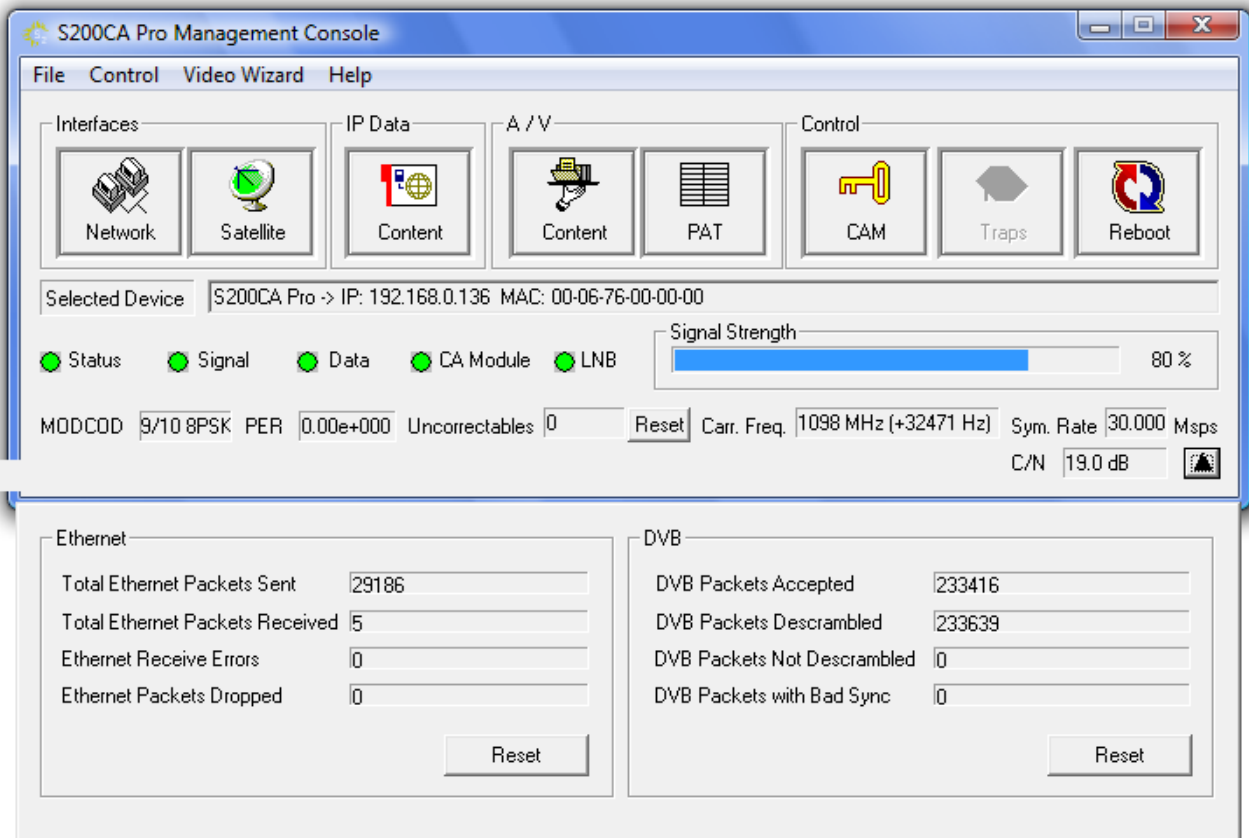

Figure 5 – S200 Console Main Screen with Stats Window
7. **More Status** – This down arrow will expand the bottom of the screen to show further status information on the S200 traffic. This expanded screen is shown in **Figure 5** below.